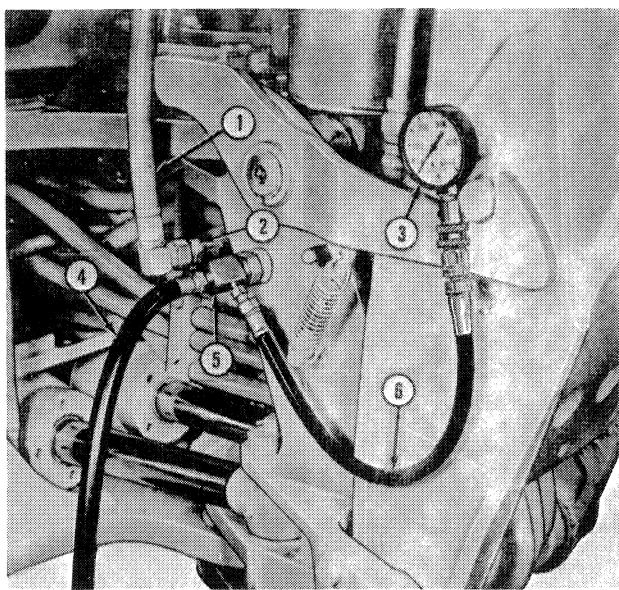

Figure 19
8. Disconnect the CR2 fitting with the hose assembly from the left side of the swing post and connect it to the right side of the swing post to check the left piston end circuit relief as shown in Figure 19.
9. Attach the lift cylinder rod end hose to the port on the right side of the swing post. Cap the piston hose end as shown in Figure 19.